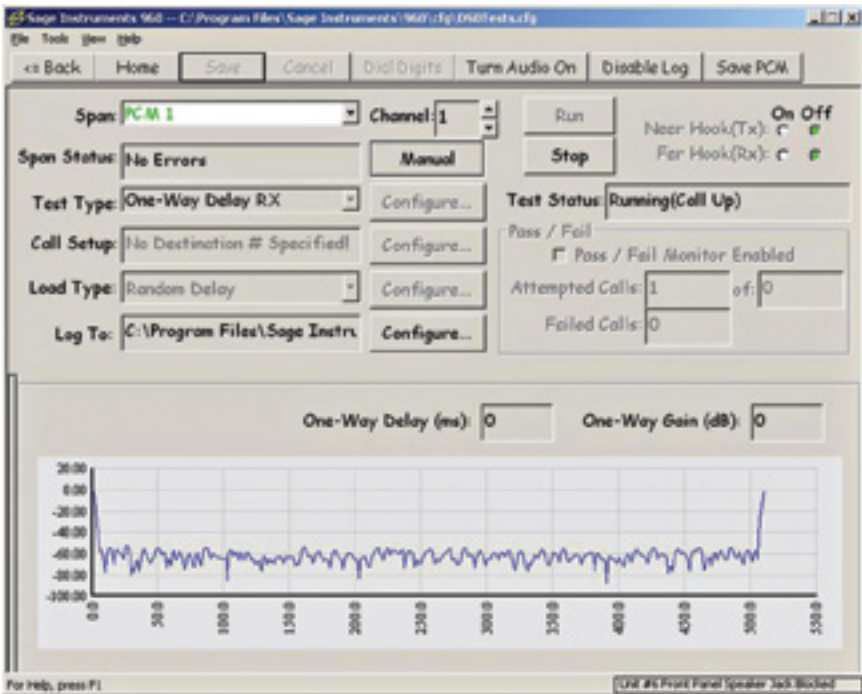

Figure 133
The SAGE 960B One-Way Delay test utilizes three (3) screens for configuration of the test parameters (see figures 133 through 135). Only one-way delay Tx can be RUN on one interface at a time. For example, if a one-way delay Tx is running on ethernet interface, then it must be stopped before a one-way delay Tx can be RUN on TDM or analog. Otherwise, the GUI will grey out the RUN button for these one-way delay Tx configuration screens.
By measuring one-way delay, a user can pinpoint delay issues to segments of the network. Multiple 960is can be used as long as the real-time audio ports (mic & spk) are connected. Figure 133 shows the main test screen with the “One-Way Delay RX” test selected and saved. When clicked the three (3) “Configure” buttons down the center of the main screen display the test set-up windows at right.